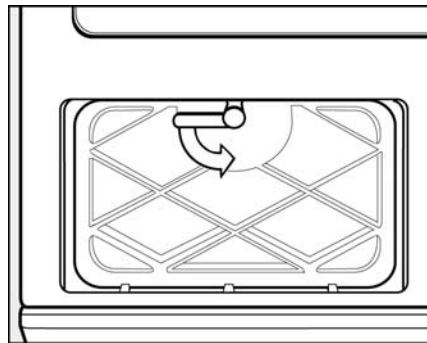

Figure 055-5: Condenser Door Lock
3. Refer to Figure 055-5. Turn the condenser door lock down and remove the door.